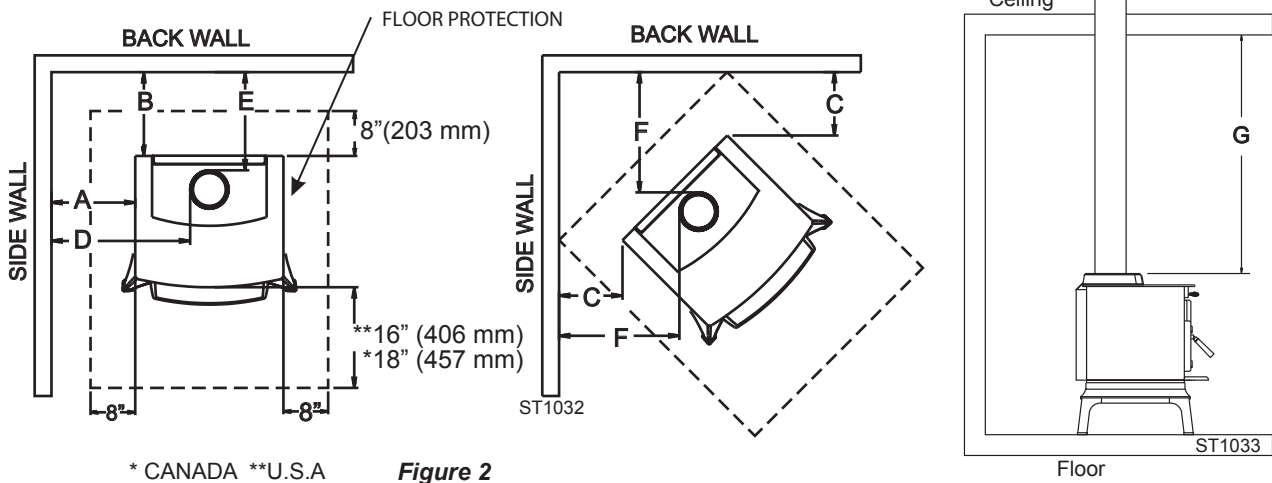

Figure 2
2. Select the proper location for the stove. These appliances must not be installed any closer than the minimum clearance to combustible materials. (Fig. 2) The stove must be installed on a noncombustible surface as shown on Page 7, Figure 4.